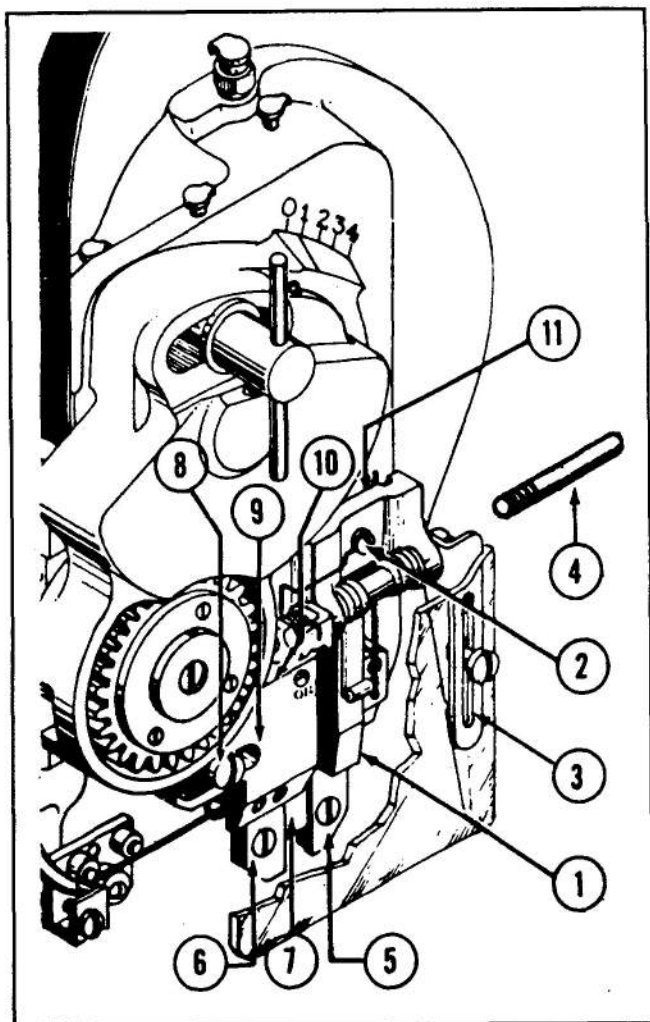

Figure 19 — Removing and Replacing Gripper, Formers and Driver
e. **GRIPPER** (See Fig. 19)—Check for excessive wear at edges of gripper bar (1) anvil (surface upon which staples are formed), usually evidenced by rounded corners on formed staple.
4—When reinstalling gripper assembly in head, be sure that upper stud (153), Fig. 23, in gripper bar clamp piece engages in slot in gripper clamp piece control slide, (167), Fig. 23; then replace and tighten gripper pivot screw, (4), Fig. 19.
f. **FORMERS AND DRIVER** (See Fig. 19)—Check for wear in grooves of formers (5) and (6), usually evidenced by buckled staple legs. The formers supplied with Models BHM, BHMB and BHML are double-ended, thereby permitting these formers to be reversed when one end is worn.